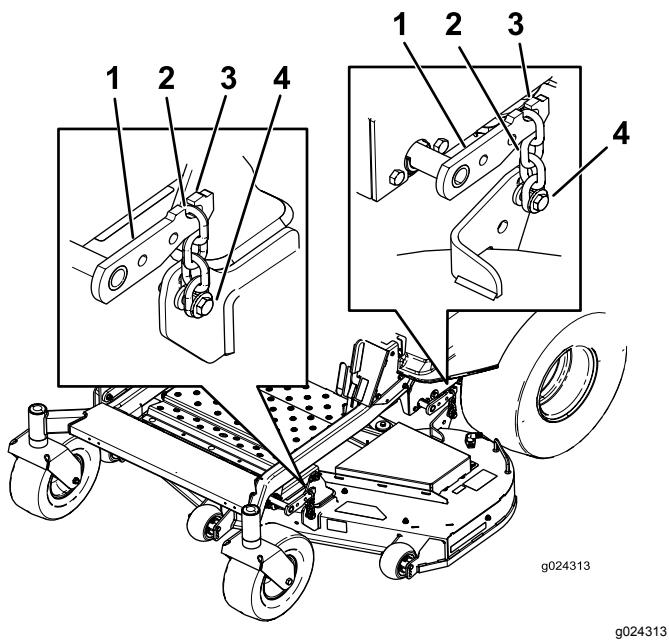

Figure 64
- Loosen the adjustment bolts on all four corners so that the deck is sitting securely on all four blocks (Figure 64).
- 6. Ensure there is tension on all four chains (Figure 64).
- 7. Tighten the four adjustment bolts (Figure 64).